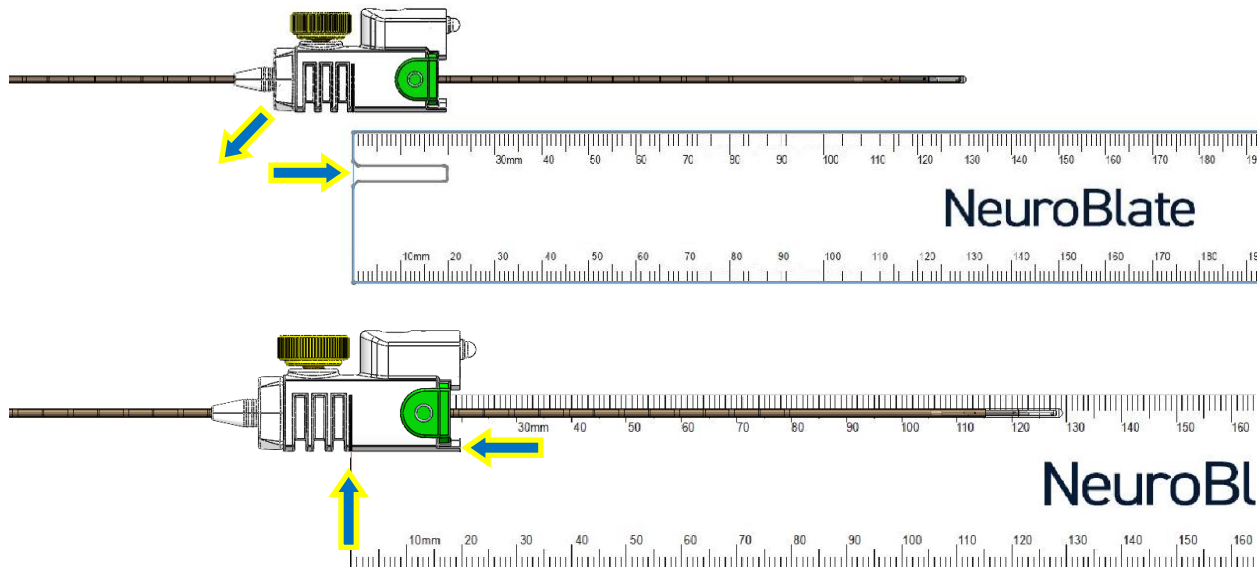

Figure 8.6.13: Setting the Floating Depth Stop (1.6 mm LDP) with NO Robotic Probe Driver
- Place the notched end of the ruler into the opening where the probe shaft exits the Floating Depth Stop, align the black line on the depth stop to the zero position at the end of the plastic ruler and lay the probe onto the surface of the ruler (Figure 8.6.13 arrows)
- Ensure the Floating Depth Stop is set to the appropriate depth to achieve the desired PDP (see Figure 8.6.13)